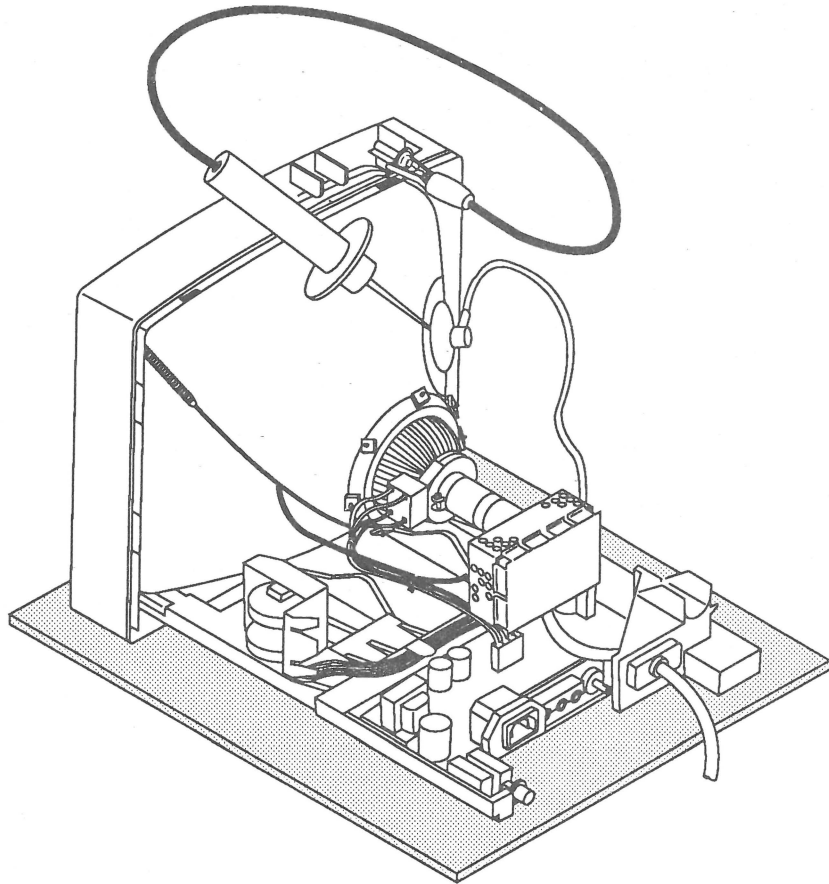

Figure 2-3 Discharging the CRT
4. Attach the clip of the CRT discharge tool to any metal part of the chassis (**Figure 2-3**).
6. Hold the CRT discharge tool to the tube surface, and insert its probe under the anode cap (**Figure 2-3**) until the probe touches the anode ring.